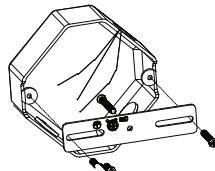

Fig. 2
02. Insert the machine screw (part 2) into the centre hole of the crossbar (part 7). Attach the crossbar to your junction box (not included) with 2 machine screws (part 3). Ensure that the screw thread on the centre hole is pointing away from the junction box (see fig. 2).